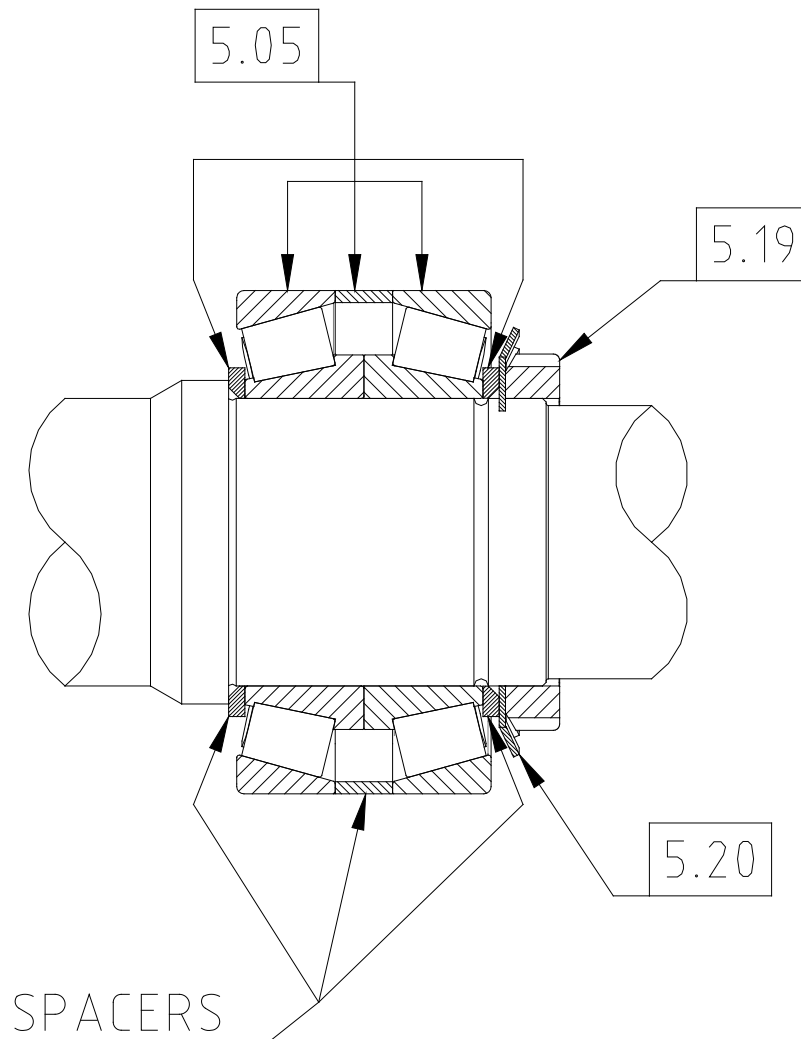

Fig 45 Front bearing assembly – CP50
- Install bearings (5.05) complete with spacers (5.05) to shafts (5.01 and 5.02) ensuring correct positioning of all components as either removed in 4.3.3. Above or supplied as new replacement set, see Fig 45.
- Install spacers (5.24), product seal sleeves (28 or 66), rotor keys (78) and rotors (41) to shafts (5.01 and 5.02) and secure with rotor retainers (35) using tool (58).